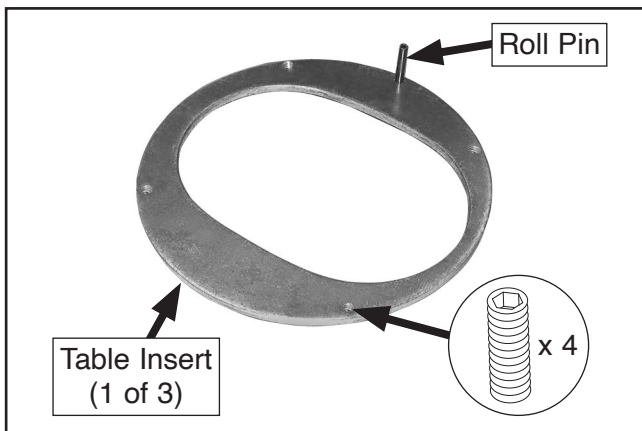

Figure 18. Set screws and roll pin installed in table insert.
- Thread (4) $\frac{1}{4}$ "-20 x $\frac{5}{8}$ " set screws into threaded holes of each table insert, as shown in **Figure 18**.
- Insert (1) 5 x 28 roll pin into non-threaded hole of each table insert, as shown in **Figure 18**.